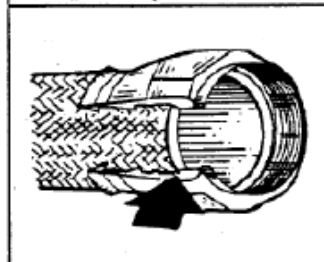

Figure 3
4. Place the hex portion of the nipple in the vise. Insert the end of the hose onto the nipple and bottom the hose against the shoulder of the nipple with a rotary motion of the hose. This will size the I.D. of the Teflon tube. **(Figure 3)**